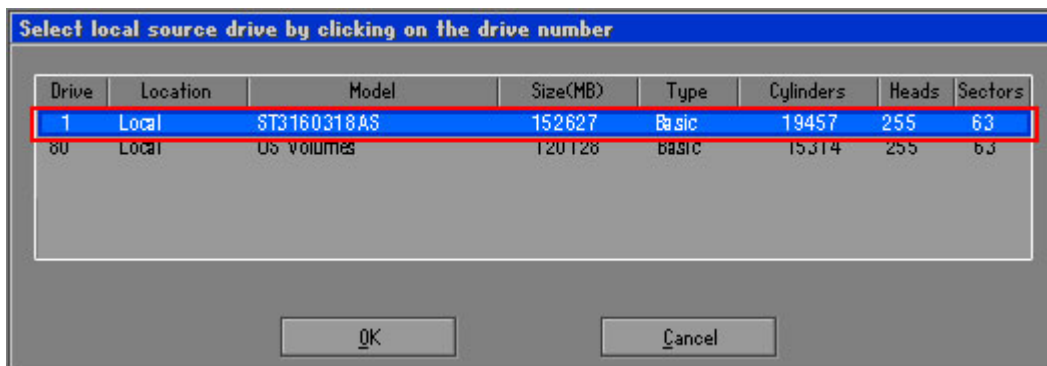

Figure B-14: Select a Local Source Drive
**Step 5:** Select the local source drive (Drive 1) as shown in Figure B-14. Then click OK.